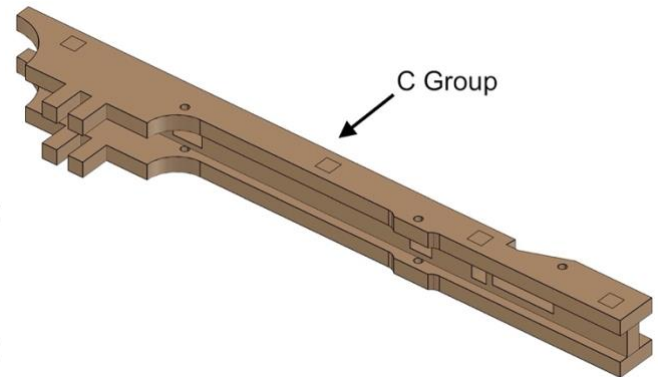

*Fig. 2*
- *Fig. 2* shows the completed process.